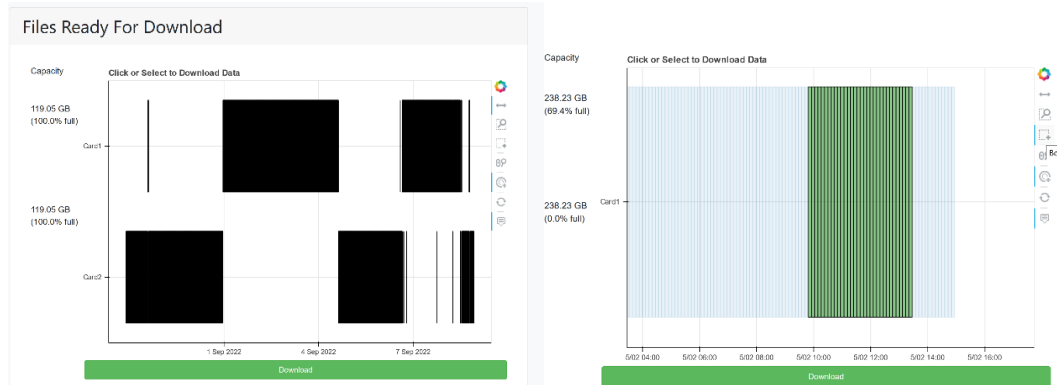

Figure 19. Raw data page file display of the two raw SD cards (left); the “box select” feature can be used to select data for download (right).
Users are now able to download their raw data and phasor data via the ViPERS web server using a convenient UI. These downloads are provided for the phasor data stored via the Linux file system as well as raw data from the SD cards or an attached hard disk. Phasor data can be accessed from the Home > Phasor Data > Phasor Data Storage page, whereas raw data can be accessed from the Home > Raw Data page. Files from the SD card are displayed on the Raw Data > SD Storage page in a plot like the one shown in Figure 19. This page allows the user to scan the internal ARTEMIS SD cards for raw data files and download them to the local (OS) SD card for copy to another system. Users can select single or multiple files and then copy them individually or concatenate them together into a single file when copied to the OS SD card.
Files are displayed as a box according to their start and stop times and the SD card they are located on. Users can download multiple files at a time directly from the SD card. These files will be streamed into one continuous file as part of the download. To initiate a download, simply select the desired file(s)—using the box select tool for multiple files—and click the download button (see Figure 19). File downloads from the SD cards are typically slow (especially if the SD card is currently being written to). To assist users in requesting speedier downloads, a pop-up will appear for larger downloads or ones requesting data from an SD card